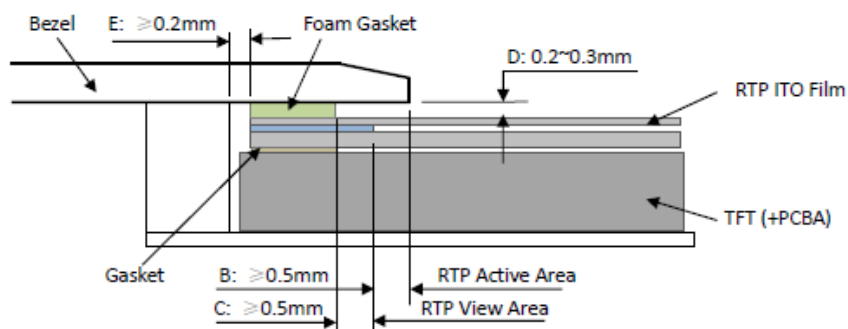

Figure 4
- It should bezel touching the RTP Active Area (A.A.) to prevent abnormal touch.It should left gab D=0.2~0.3mm in between. (Figure 4)
- Outer bezel design should take care about the area outside the A.A. Those areas contain circuit wires which is having different thickness. Touching those areas could de-form the ITO film. As a result bezel the ITO film be damaged and shorten its lifetime. It is suggested to protect those areas with gasket (between the bezel and RTP).The suggested figures are $B \geq 0.50\text{mm}$; $C \geq 0.50\text{mm}$. (Figure 4)
- The bezel side wall should keep space E= 0.2 ~ 0.3mm from the RTP. (Figure 4)
- 为避免面框直接压在动作区(A. A.)上造成误动作, 面框与电阻触摸屏(RTP)之间应留有一定的空隙 $D=0.2 \sim 0.3\text{mm}$ 之间. (附图4)
- 设计面框时, 要注意用面框保护触摸屏四周的非保证操作区域, 因为布线区域在此处形成一台阶, 在此区域附近操作时ITO Film变形较大, 容易导致ITO损坏而降低寿命。为保护RTP和避免误操作, 在RTP与面框之间垫缓冲物(Gasket), 我们建议设计面框应覆盖动作区的边缘, 面框边缘到V. A. 区的距离 $B \geq 0.50\text{mm}$; 垫圈内边缘到V. A. 区的距离 $C \geq 0.50\text{mm}$. (附图4)
- 在设计面框与RTP组装时, 应考虑到面框内侧与RTP外侧的间距 $E \geq 0.2\text{mm}$. (附图4)